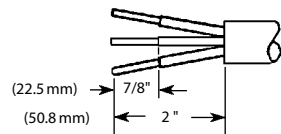

Fig. 2
- Strip cord jacket and conductor insulation as shown in Fig. 2.